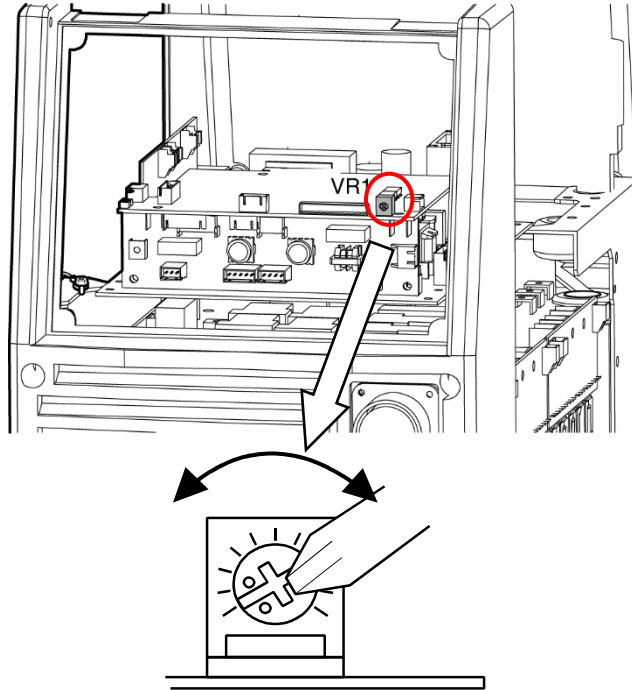

Figure 7-3 VRD ON/OFF Step D
- c) Turning the VRD ON/OFF (see Figure 7-3).